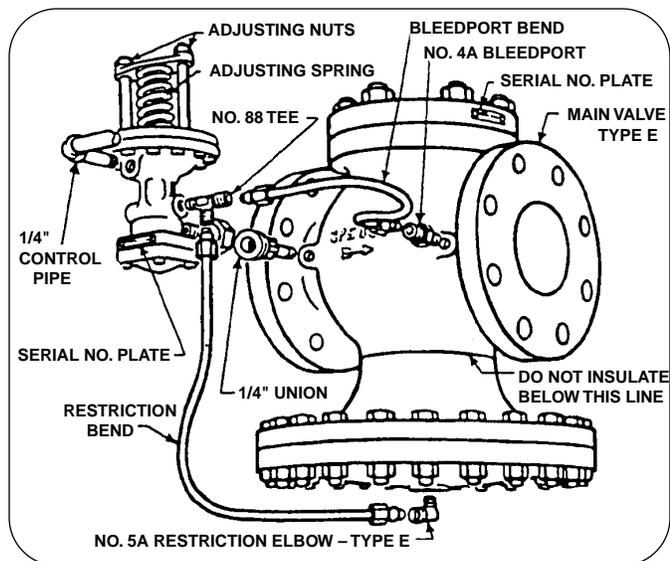

Figure 2-1. Type ED Valve
On pressure reducing valves such as the type ED, use a by-pass to fill the delivery system and raise pressure to slightly below normal required. Close the pilot by releasing compression on the adjusting spring. See Figure 2-1. Open the 1/4" control pipe valve, crack the outlet stop valve, the crack inlet stop valve, and blow down the strainer.
### TROUBLE SHOOTING (See Figure 2-1)
1. Inspect for dirt collected at bleedport No. 4A and restriction elbow No. 5A (see Figure 2-1).